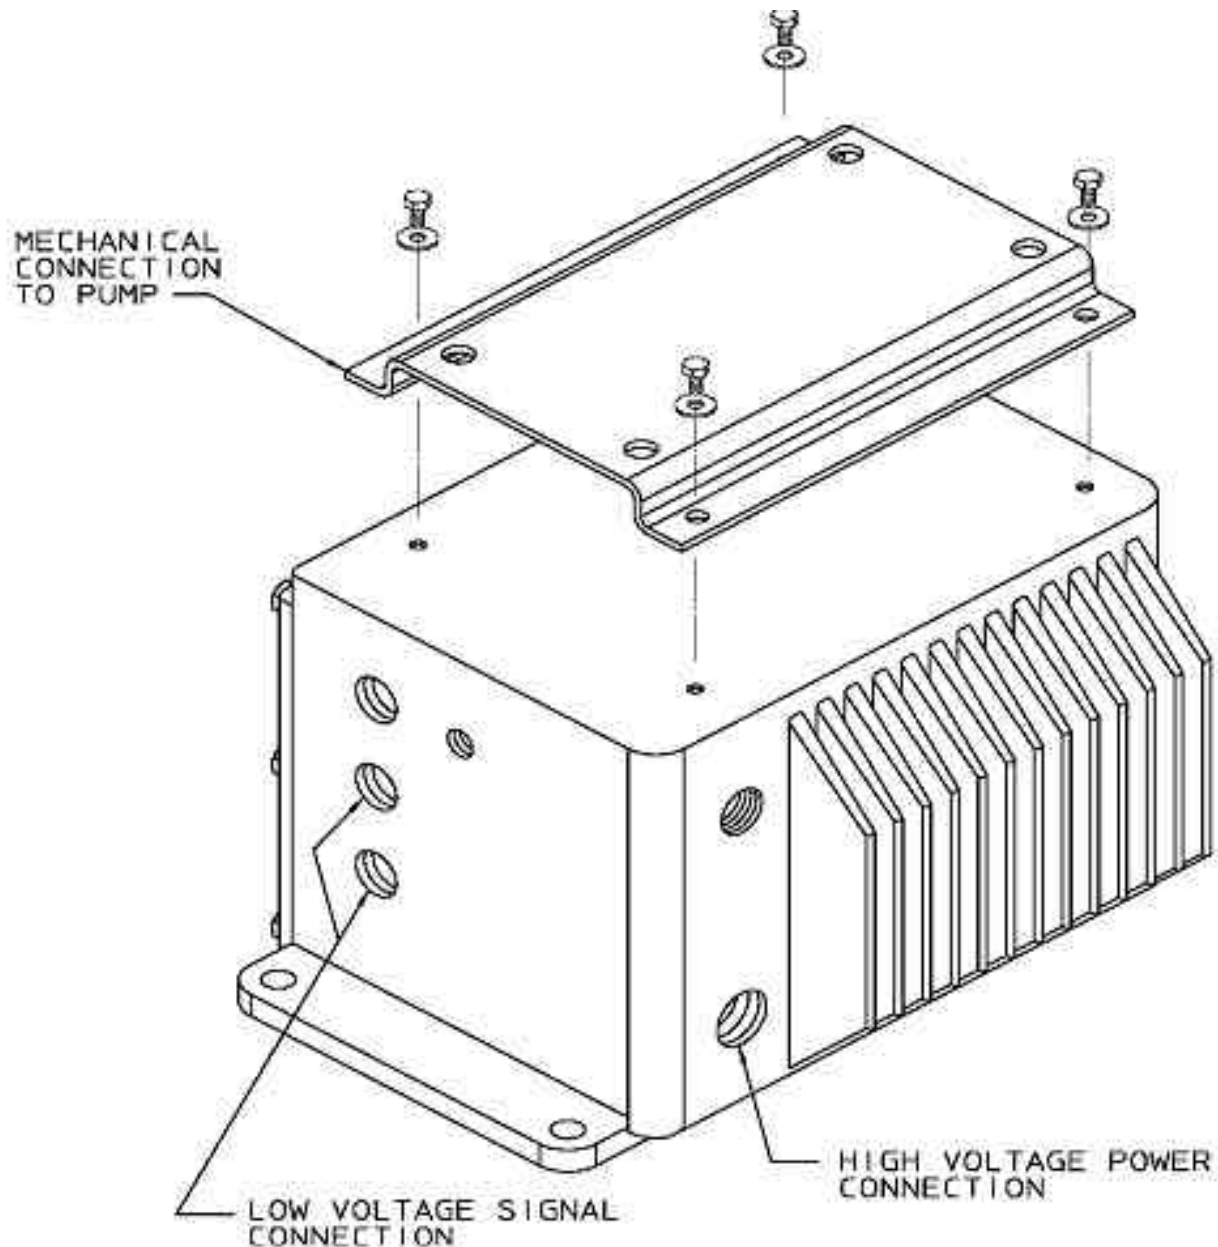

Figure 2 – Conduit Connection Layout
- New figure 2 (pump mounting)